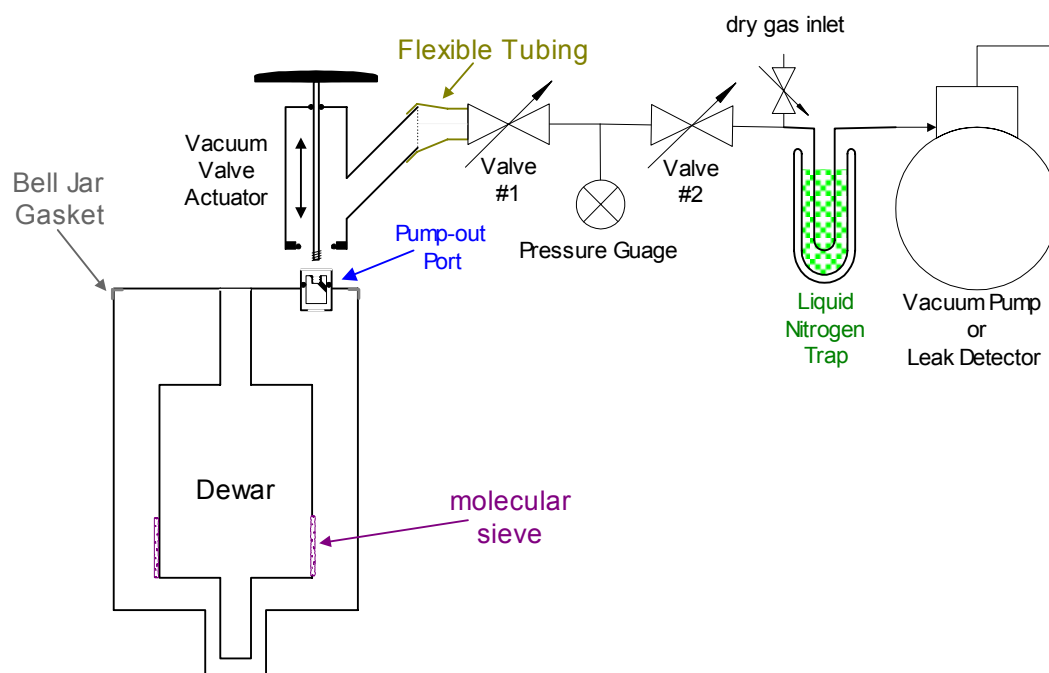

Figure 1: Schematic of dewar pumping components
You will need a Vacuum Valve Actuator (Tristan model VVA or equivalent), a vacuum pump (or helium leak detector), a thermocouple pressure gauge with millitorr sensitivity (or equivalent), two valves and connecting hoses or tubing. Connect the components as shown in Figure 1.
- Make sure all the components in Figure 1 are connected and leak tight. Valves #1 and #2 should be closed. If a LN₂ trap is being used, fill the trap.